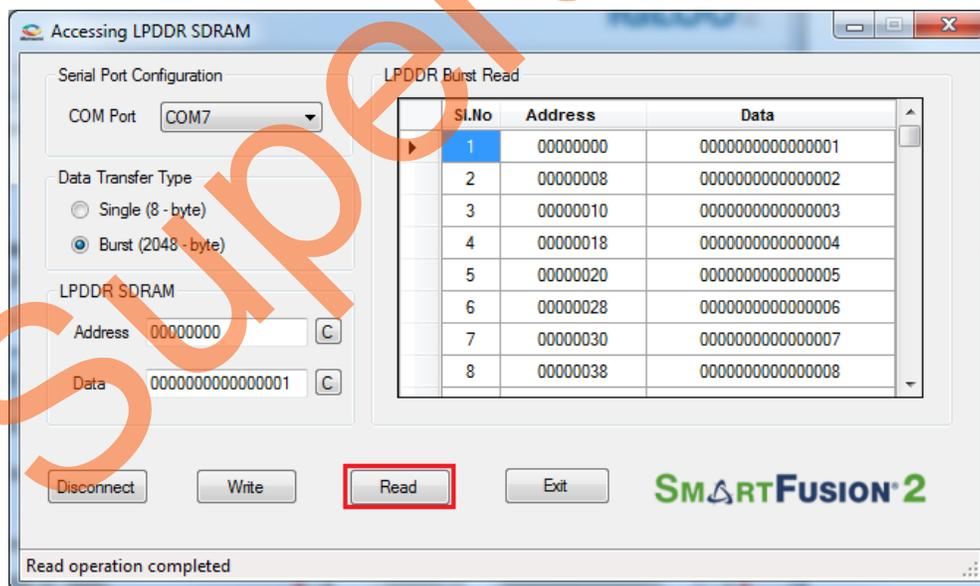

Figure 25 • Burst Read Operation
- Click **Read**. All the 2048 bytes of data that was written to the LPDDR was read and the read data was displayed in the **LPDDR Burst Read** panel. Figure 25 shows the burst read data.